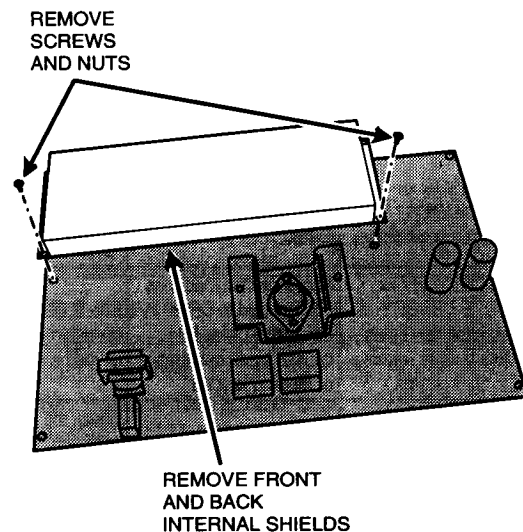

Figure 54. Removing Internal Shield
**STEP 3** Remove internal shield. Remove the two screws and nuts from the internal shield. Remove the front and back shield pieces (see Figure 54). Set the front and back shields aside.